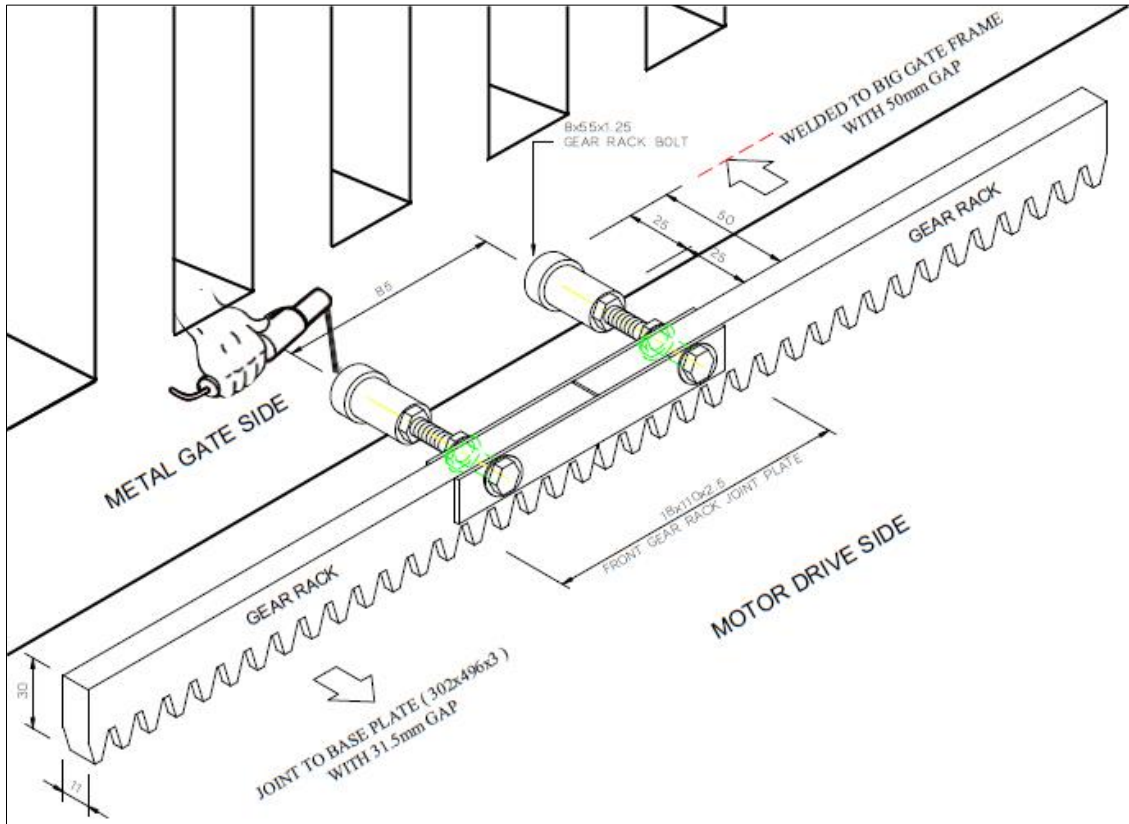

Figure 4.0 Gear rack installation guides
- Lay the first piece of rack on the gear and weld the first bolt on the gate. One tip is to always lay the centre of the rack onto the gear to get hold on the centre point and you can allow the edge of the rack align to it with the use of balancer. Then, it is recommended to weld the two pieces of bolts at both edges each and follow by the centre one as shown in figure 4.0 below.